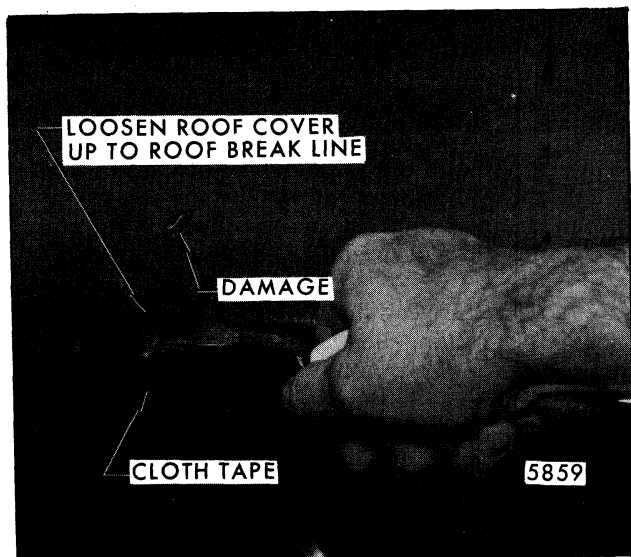

Fig. 8-68-Loosening Edge of Roof Cover
3. Using pliers or similar tool, carefully loosen edge of roof cover up to roof break line (Fig. 8-68).